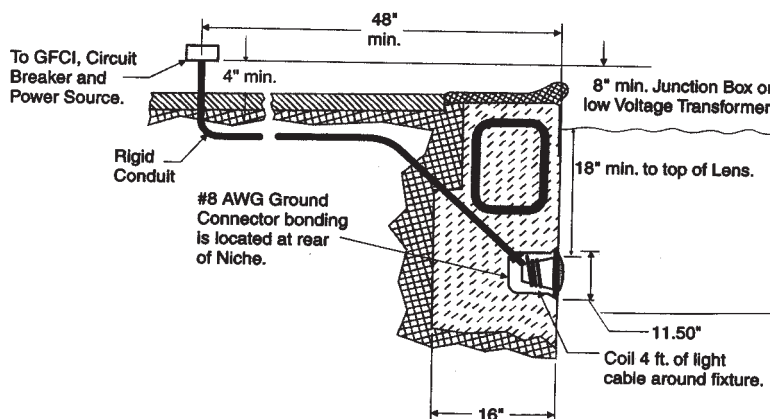

Figure 8. Water Resistant Junction Box Location
2. The water resistant junction box must be located a minimal 8" above water level and 48" away from the spa. (See **Figure 8**)
5. Feed light cord through conduit to junction box, leaving at least 4 inches of cord at the end of the light fixture. This slack in the light cord will allow servicing without draining the spa in the future. (See **Figure 8**)